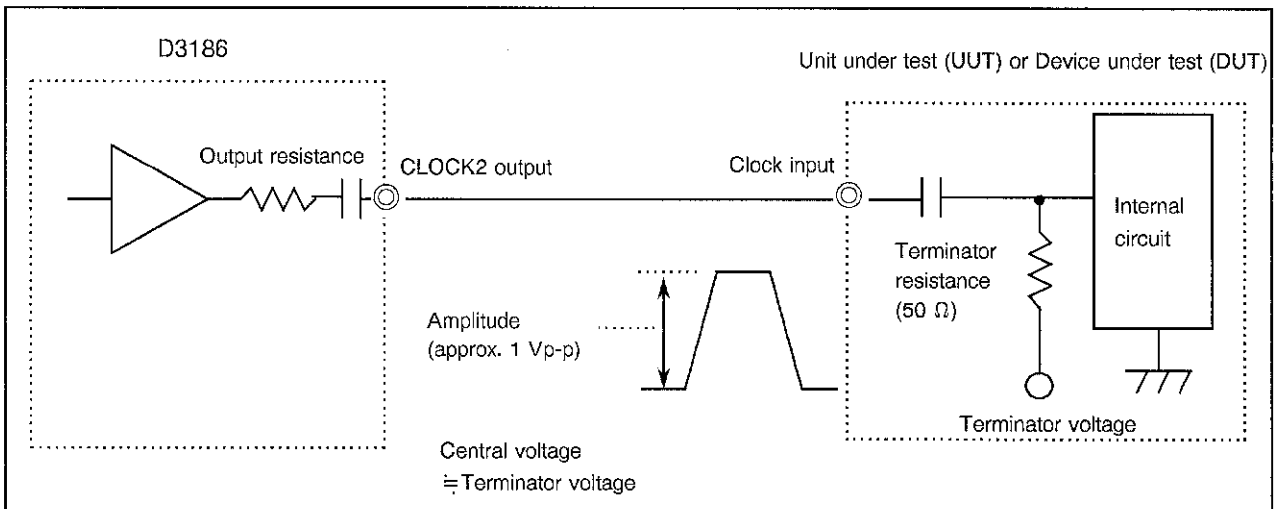

Figure 4-8 CLOCK2 Output, DC Connection Terminator
- (3) When the UUT/DUT clock input connection is DC and the central voltage of the amplitude should be equal to the terminator voltage (see Figure 4-8.):